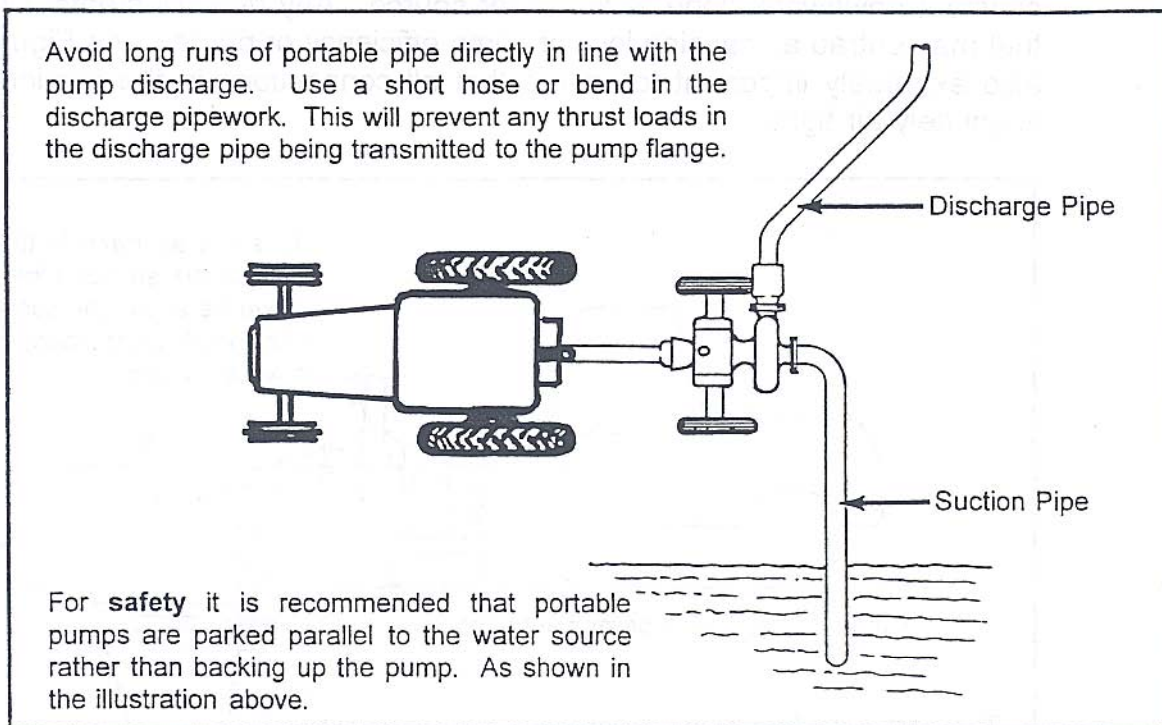

Figure 3. Pump Set-up and Pipe Configuration
5. Position the pump as close to the water source as possible. For **safety** park the pump parallel to the water source and use a 90 degree bend on the pump suction. This configuration will reduce the risk of the pump rolling toward the water in the event of brake failure for example. See Figure 3.
10. Assemble the discharge pipework. Avoid long unsupported lengths that will place excessive loads on the pump flange. Do not install more than one length of pipe directly in line with the discharge without installing at least a 45 degree bend. Thrust loads generated by the pipe can cause serious damage to the pump body or gearbox casing. The use of a short flex line from the pump discharge to the system pipework will eliminate any potential thrust problems. See Figure 3.
If water flows continuously, the gland should be tightened by an even adjustment of the two gland nuts. See Figure 3.